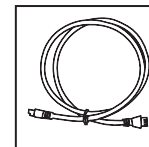

FIG. 4
- 108" Stove & Sink Jumper Wire (LEDJUMP108) — See FIG. 4